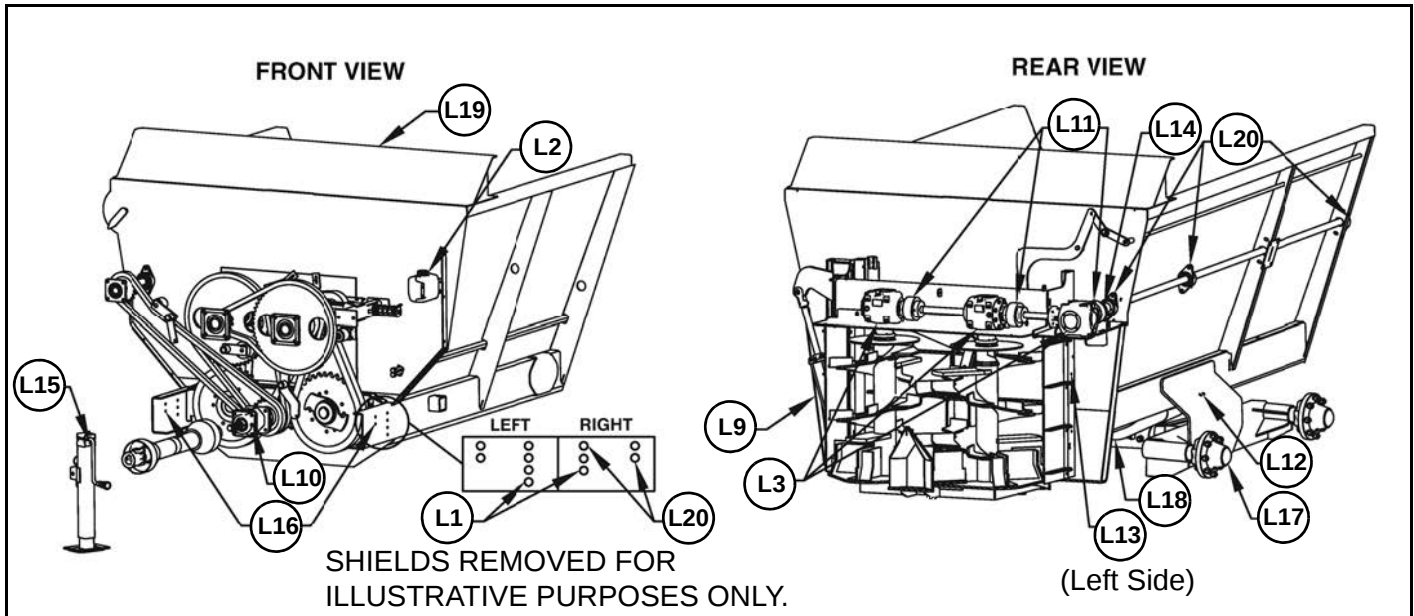

Figure 8.5 Grease Locations
- ① L1 Grease (2) auger shaft bushings. The bushings are grease line fitted to the lower zerks on the front right and left side grease banks of the spreader. Grease minimum of 10 pumps. Over greasing is not possible. See Figure 8.5 on Page 40.
- ② L2 Keep oil reservoir full with new 30 weight oil for chain lubrication. The automatic chain oiler will lubricate the chains every time the rear gate cylinder is opened. The oil reservoir is accessible by opening the front shield.
- ③ L3 Maintain the oil levels in the (3) gearboxes using each gearbox's sight glass. Check regularly for any observable oil leakage around the input or output shaft seals. If leakage is found, replace seals. Lubricate the (3) gearboxes with Synthetic EP Gear SAE 90/ISO220 oil, capacity approximately 47.3 oz.